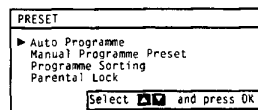

Fig. 3.
- 1 Select Preset with $\Delta+$ or $\nabla-$ and press OK. The PRESET menu appears. (See Fig. 3.)